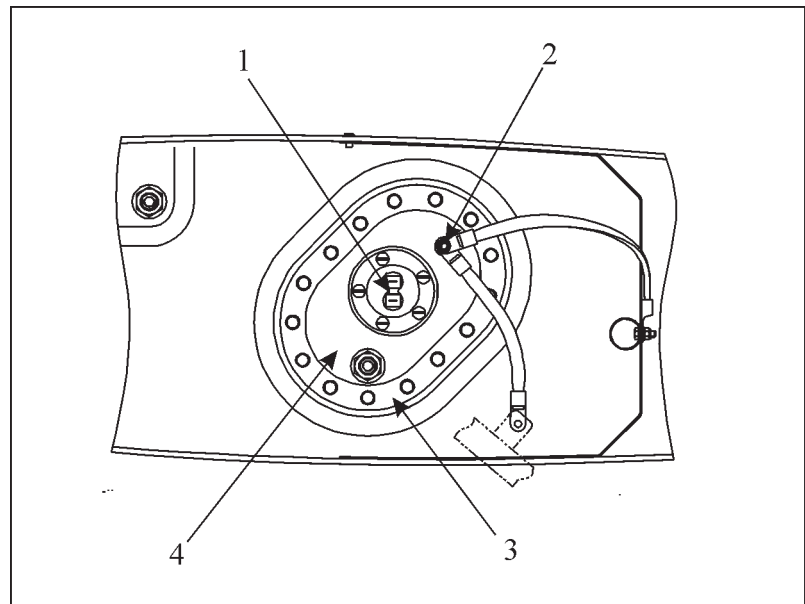

Figure 4 Inspection Door Removal/Installation
- 2 Disconnect the ground bonding leads (2, figure 4) and if necessary the electrical wiring (1) of the fuel quantity transducer.
- 4 Remove the inspection door flange (3).
- 5 Push the inspection door (4) into the tank, then turn and remove.